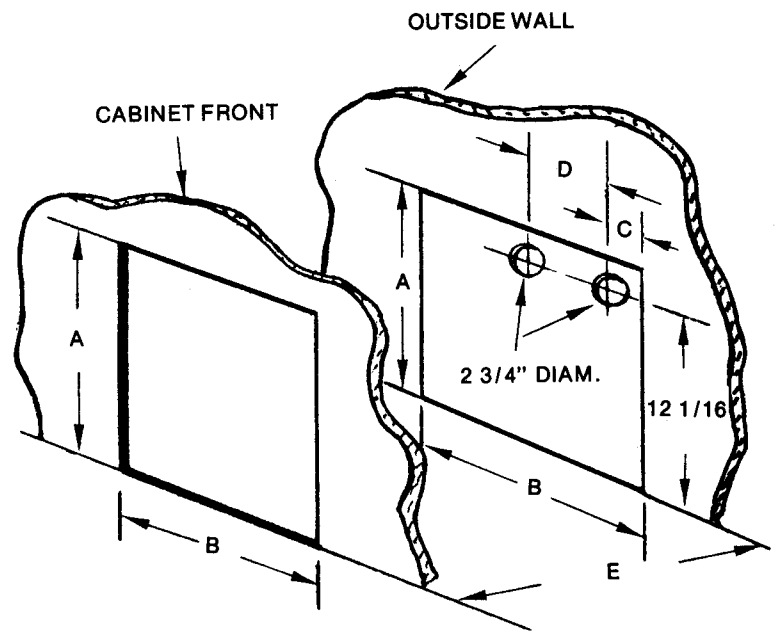

FIG. 5
2. Provide opening in cabinet or enclosure as specified in Figure 5.
3. Cut two (2) 2-3/4" to 3" openings for vent-air terminals. See Figure 5 for opening locations.